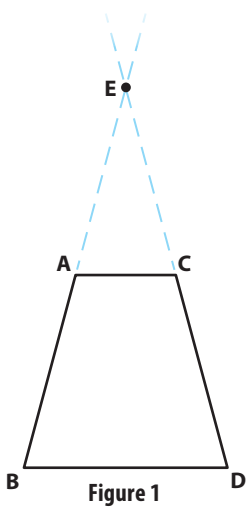

Figure 1
**1.** Draw the profile of the segmented cone, or frustum, you want to make (see "What is a Frustum?" *right*). Label the corners ABCD, as shown (**Figure 1**).